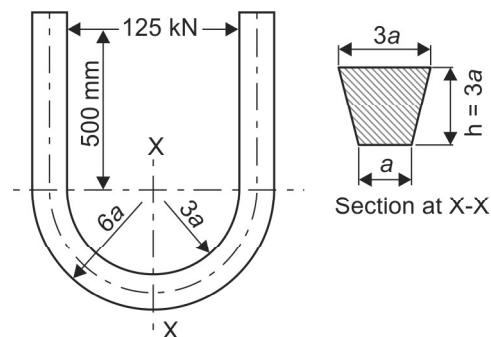

Fig. M1.21
36. The U-section frame is to resist a straightening load of 125 kN as shown in Fig. M1.21. The material of the frame has a permissible stress of 65 MPa. Determine the dimensions of the frame. (12 Marks)